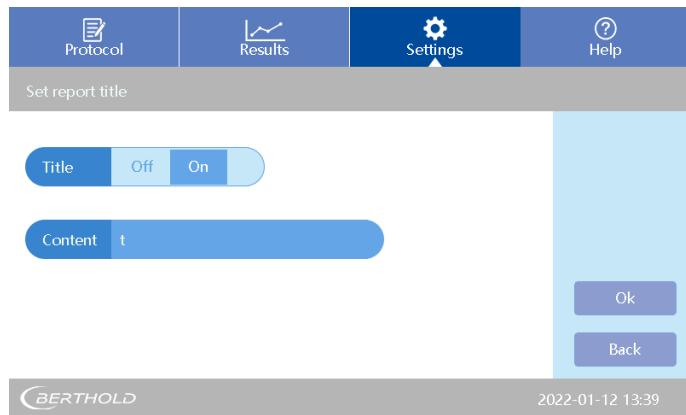

Fig 51: Set report title
1. Press <Print> in the [Settings] tab page. See Fig 51.